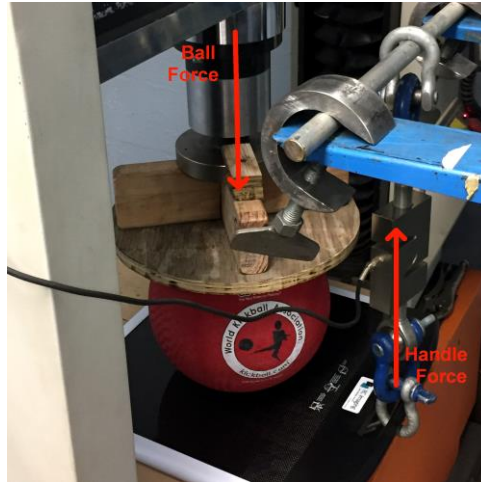

Figure 1: Test Setup, Ball Force and Handle Force
**Note:* Peak Ball Force and Peak Handle Force are the forces at which the latch disengages from the detector. See figure 1 for the positions of the force gages.
**Note: Peak Ball Force and Peak Handle Force are the forces at which the latch disengages from the detector. See figure 1 for the positions of the force gages.*
*Note: Peak Ball Force and Peak Handle Force are the forces at which the latch disengages from the detector. See figure 1 for the positions of the force gages.